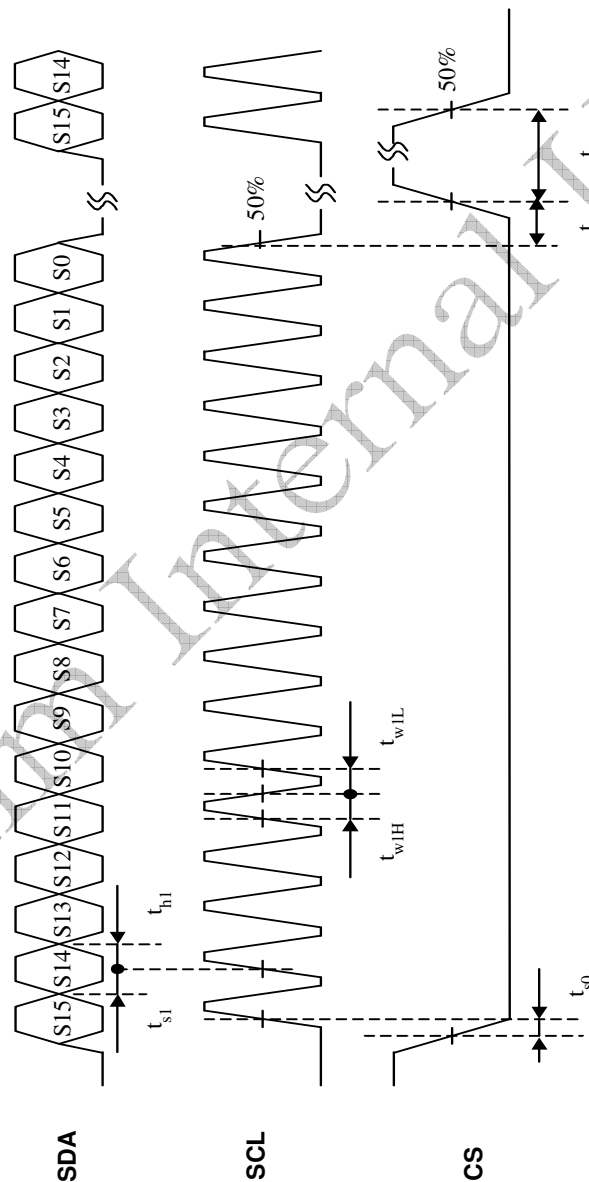

Fig. 4 Serial Control Timing
a. Timing condition (refer to Fig. 4)